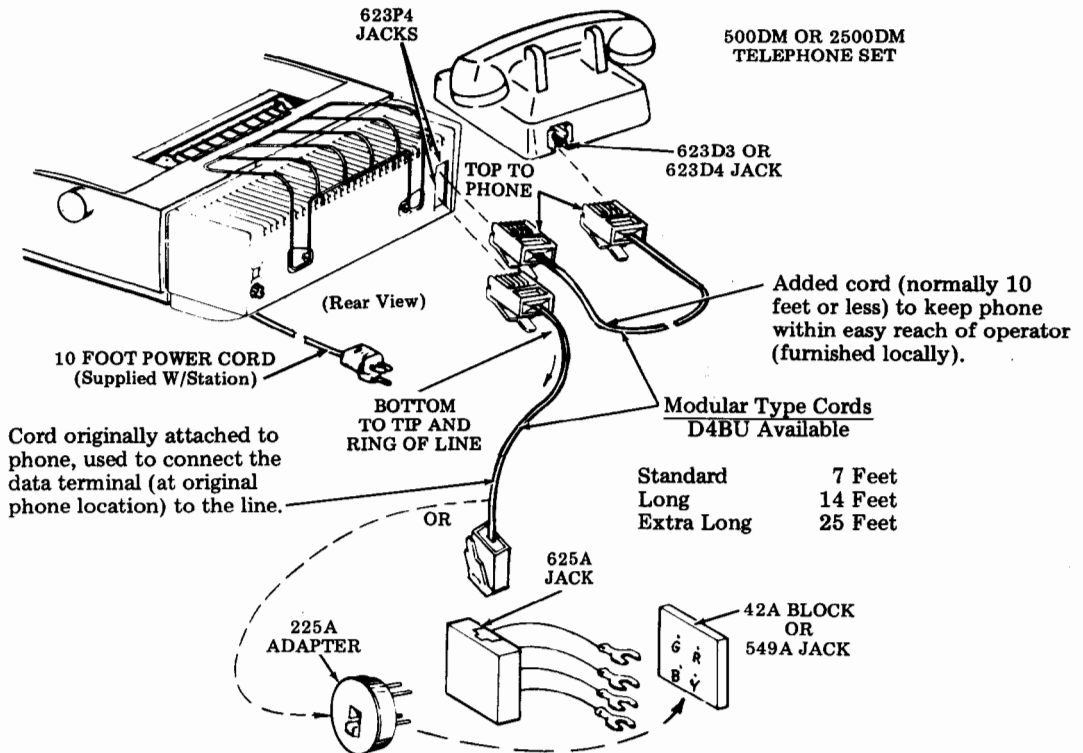

Fig. 3—Telephone Connection
3.08 Unplug the modular plug of the D4BU cord from the modular jack associated with the telephone specified on the service order and connect it to the lower connector marked LINE on the rear of the TDU accessible through the opening in the left rear of the bustle cover (Fig. 3). If telephone is not to be placed at original phone location, a different length cord may be needed.